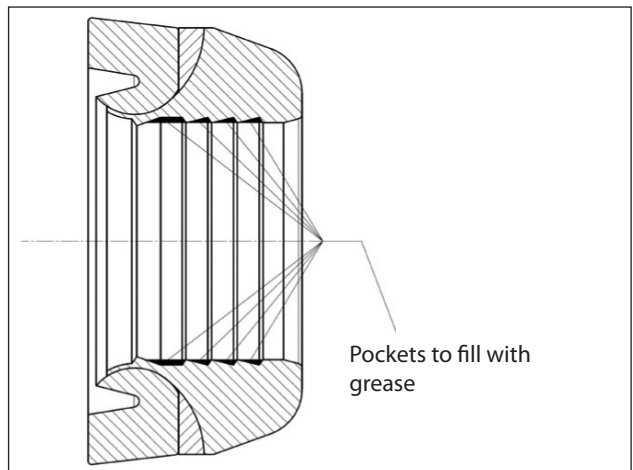
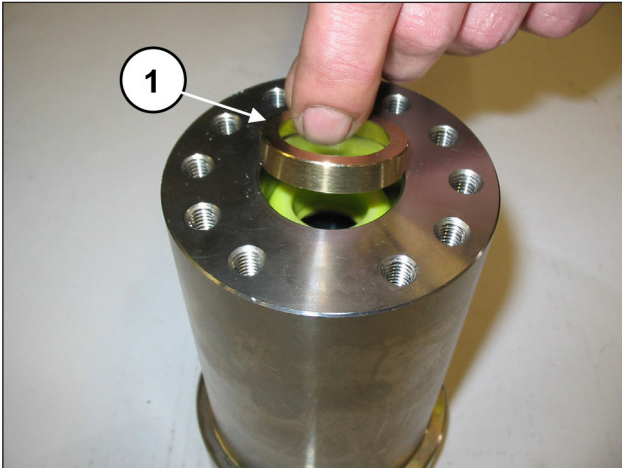
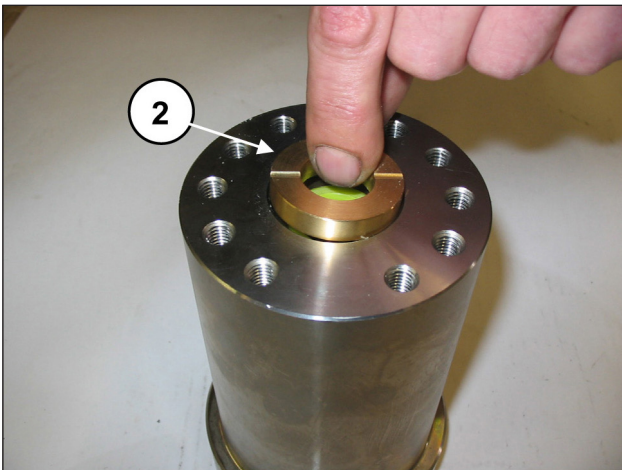
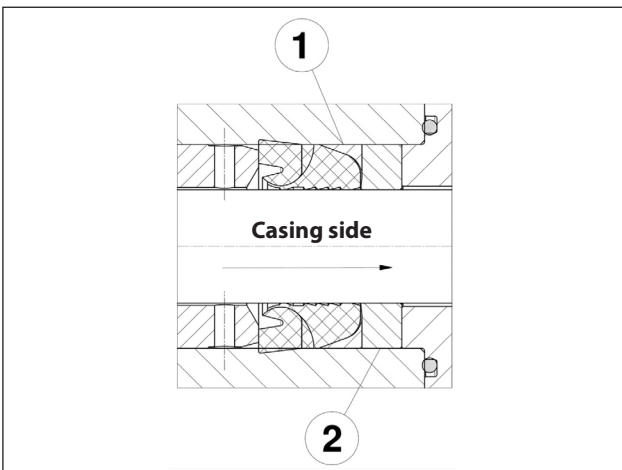

Fig. 121
Fig. 122
Fig. 123
Fig. 124
**The H.P. seal must be placed in the liner as indicated in Fig. 121 and Fig. 122.**
**On the internal diameter, grease must be applied paying great attention to filling all the pockets between the sealing lips as shown in Fig. 122.**
Insert the anti-extrusion ring and the seals bush (pos. ① and ②, Fig. 122, Fig. 123 and Fig. 124).
The gasket bush ② must be introduced into the liner with the two outlets facing outwards (casing side) as shown in Fig. 123.